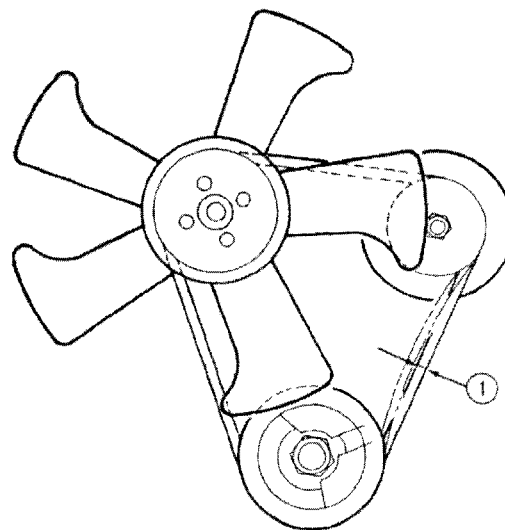

Figure 100
3. Install the drive belt and adjust the belt tension to .19 in. (5 mm) deflection, Figure 100.